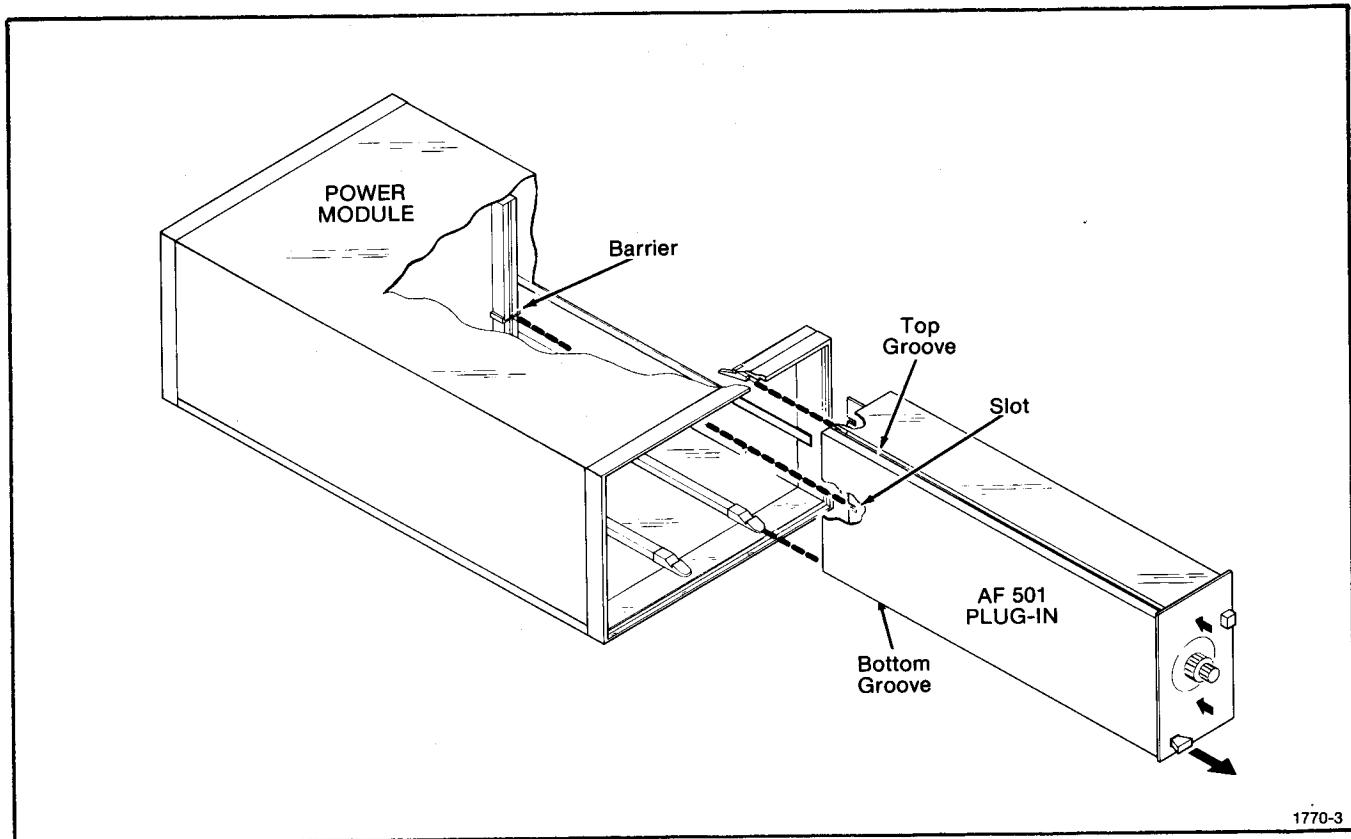

Fig. 1-1. Plug-in module Installation/removal.
*Turn the power module off before inserting the plug-in; otherwise, damage may occur to the plug-in circuitry. It is also recommended that the power module be turned off before removing the AF 501. Refer to Fig. 1-1. Check to see that the plastic barriers on the interconnecting jack of the selected power module compartment match the cut-outs in the AF 501 circuit board edge connector.*